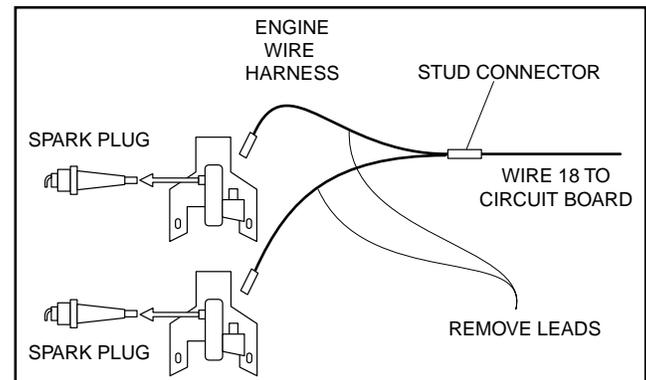

Figure 35. Engine Ground Harness
11. Disconnect the engine wire harness from the ignition magnetos (Figure 35).